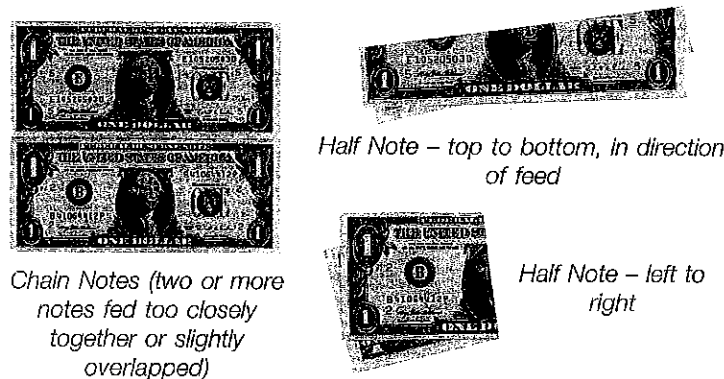

Figure A-3: Sample Chain and Half Notes
- A feed error such as a chain note or half note is encountered (see Figure A-3).